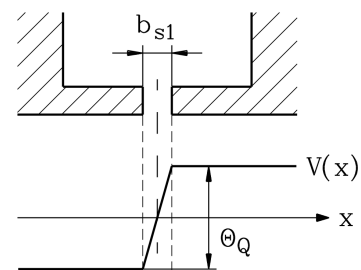
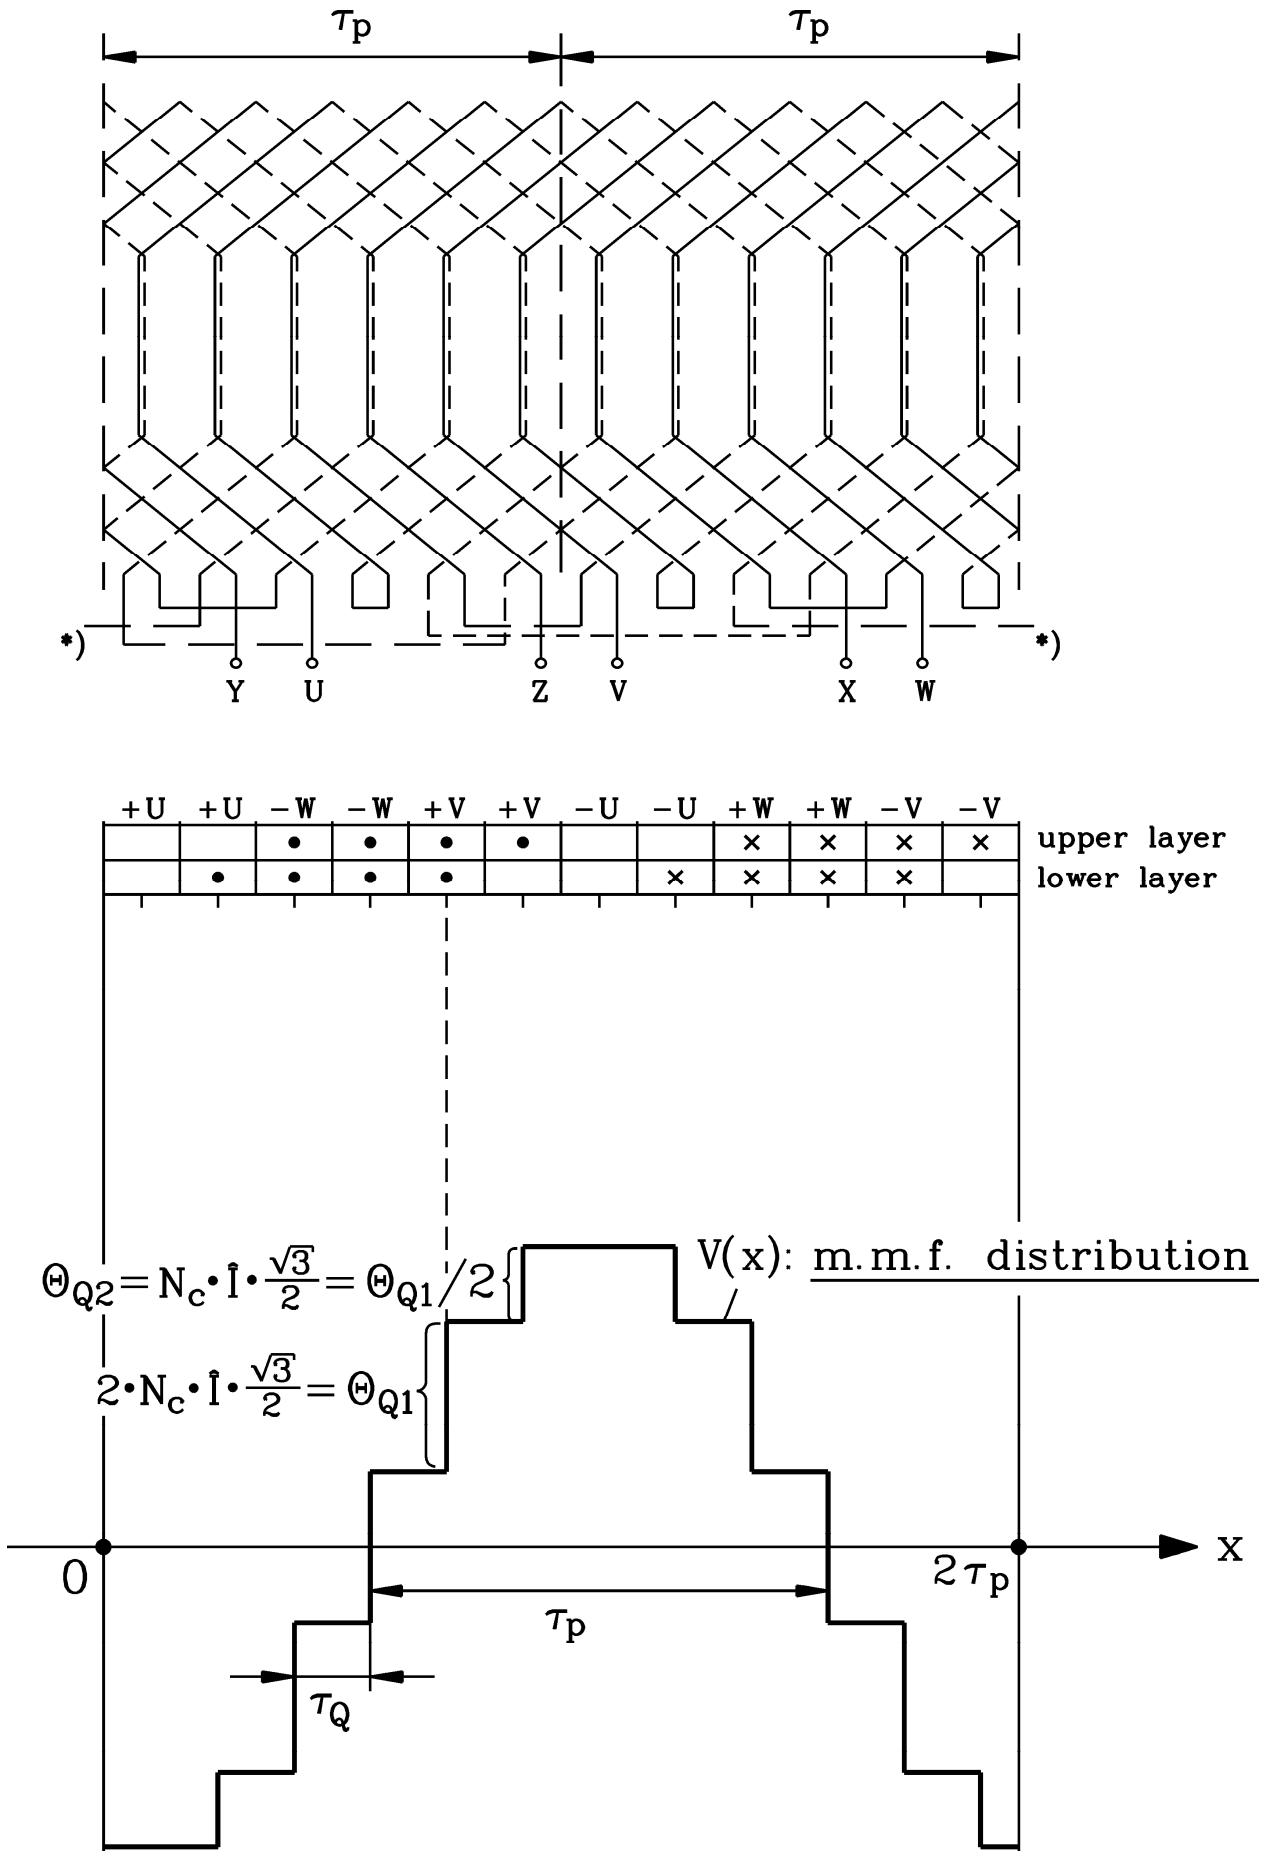

Fig. 1.3-3: Influence of slot opening on m.m.f.
Fig. 1.3-4: Completed plan for a three-phase two-layer winding and m.m.f. distribution
- 5) The magneto-motive force curve (m.m.f. curve) is: $V(x) = \int A(x) \cdot dx$. If the influence of slot opening is neglected (Fig. 1.3-3), the m.m.f. “jumps” in the centre of the each slot with the corresponding slot Ampere turns Θ_Q (solution see Fig. 1.3-4).